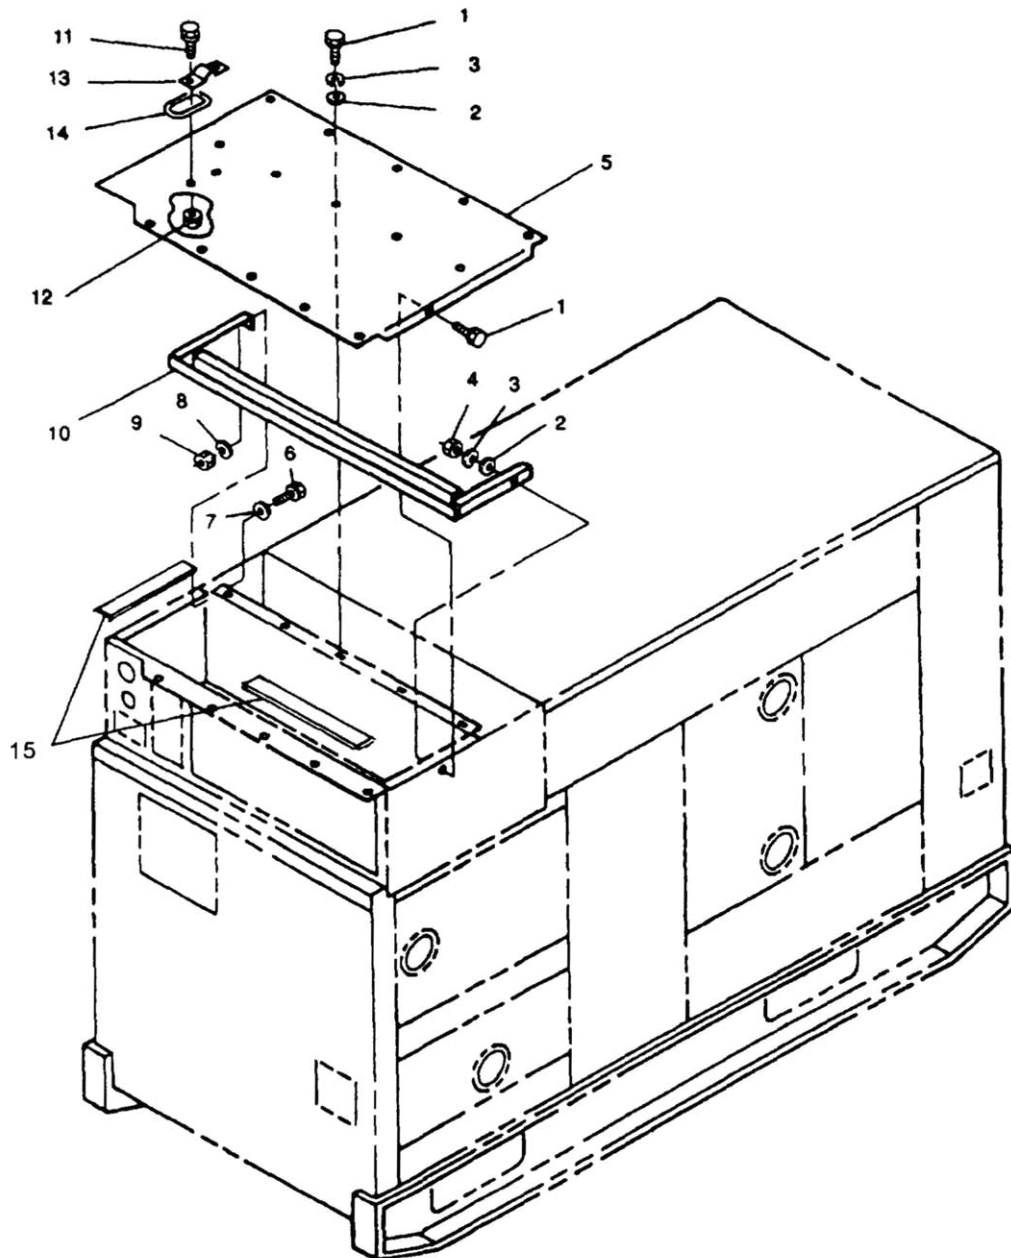

Figure 1. Control Box Top Panel.
1. Install ring (Figure 1, Item 14) and bracket (13) on control box top panel (5) with bolts (11) and assembled nuts (12).
2. Install stiffener (10) in control box assembly with bolts (6), washers (7), new lockwashers (8), and nuts (9).